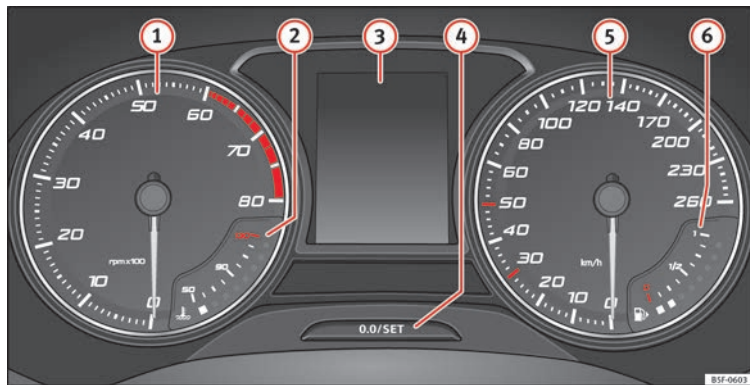

Fig. 115 Instrument panel, on dash panel
Details of the instruments » Fig. 115:
The rev counter indicates the number of engine revolutions per minute » Fig. 115 ❶.
❶ CAUTION
Never allow the rev counter needle ❶ » Fig. 115 to go into the red zone on the scale for more than a very brief period, otherwise there is a risk of engine damage.
A variety of information can be viewed on the instrument panel display » Fig. 115 ❸, depending on the vehicle equipment:
- Briefly press the button »» Fig. 115 (4) to reset the trip recorder to 0.
- Keep the button (4) pressed for about 3 seconds and the previous value will be displayed.
- To set the time, keep the button »» Fig. 115 (4) pressed for more than 3 seconds to select the hour or minute display.
- To continue setting the time, press the upper or lower part of the button (4). Hold but-
Hold the button **» Fig. 115 ④** down for more than 15 seconds to display the identifying letters of the vehicle engine (MKB). To do this, the ignition must be switched on and the engine switched off.